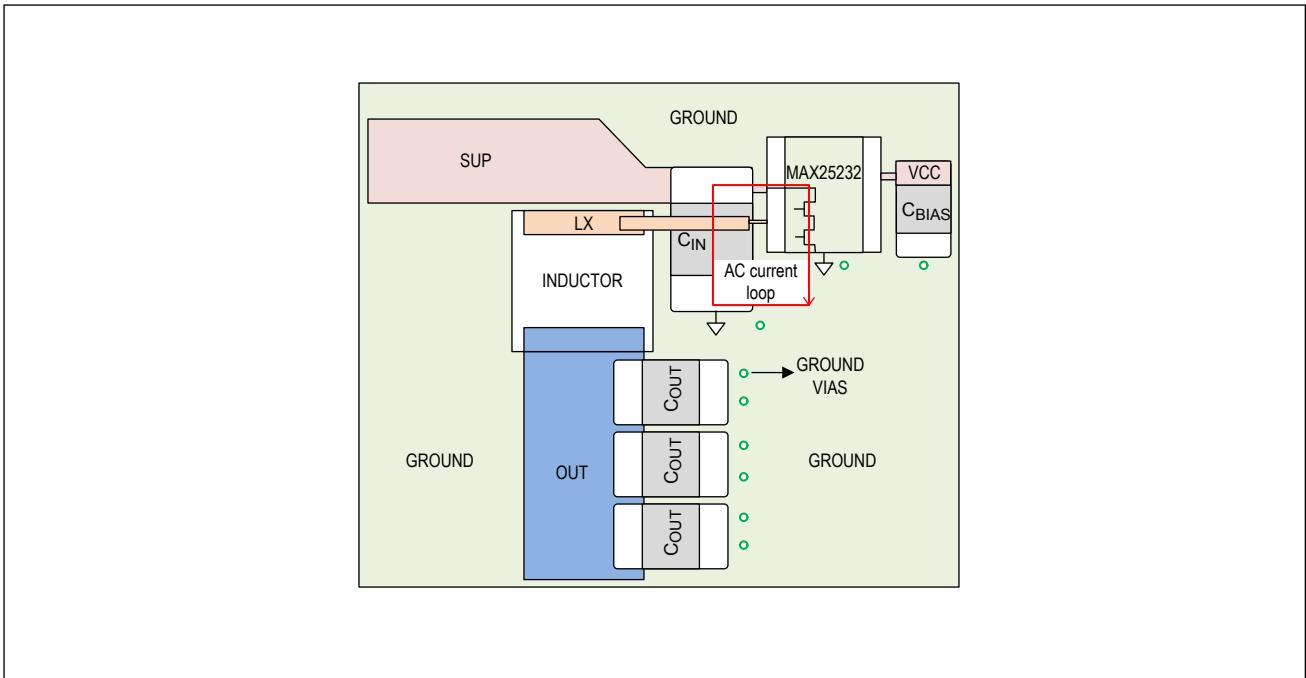

Figure 2. Recommended PCB Layout for MAX25232
1. Place the input capacitor (C_{IN}) close to the device to reduce the input AC-current loop. AC current flows on the loop formed by the input capacitor and the half-bridge MOSFETs internal to the device (see Figure 2). A small loop would reduce the radiating effect of high switching currents and improve EMI functionality.